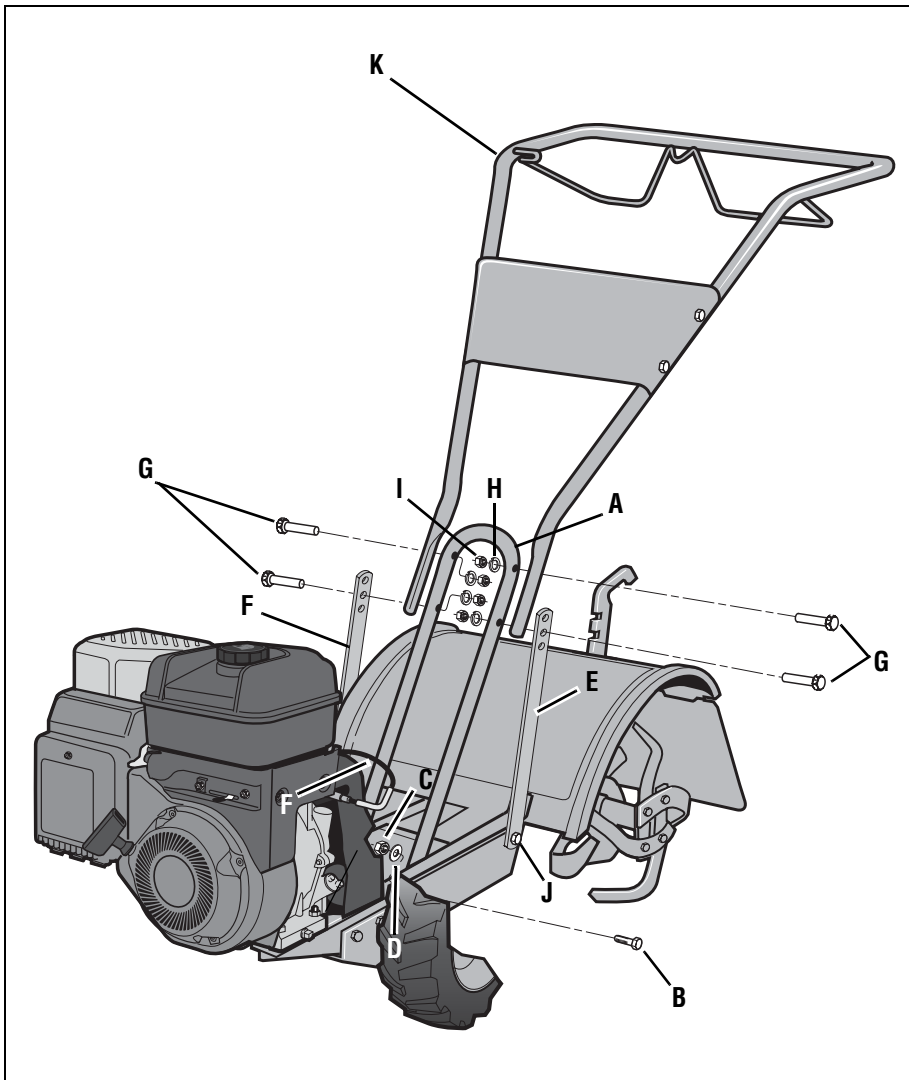

Fig. 2.2: Attach handlebar.
1	Handlebar Support (see A, Fig. 2-2)
1	Handlebar Assembly (see K, Fig. 2-2)
1. Loosely attach the legs of the handlebar support (A, Fig. 2-2) to the inner sides of the tiller frame using two 3/8"-16 x 3/4" hex hd. screws (B), 3/8" flat washers (C), and 3/8"-16 hex locknuts (D).
2. Using two 5/16"-18 x 1-1/2" screws (G), 5/16" split lockwashers (H) and 5/16"-18 hex nuts (I), loosely attach the handlebar support (A) using the upper holes. Tighten the two screws securely.
3. There are three height adjustment holes in the two handlebar support brackets (E and F, Fig. 2-2). Use a setting that will position the handlebars at approximately waist level when the tines are 3"-4" into the soil. Loosely attach the support brackets **to the outside of** the handlebar assembly (K) using two 5/16"-18 x 1-1/2" screws (G), 5/16" split lockwashers (H) and 5/16"-18 hex nuts (I). **NOTE:** If a support bracket will not move, loosen attaching screw (J) and nut.